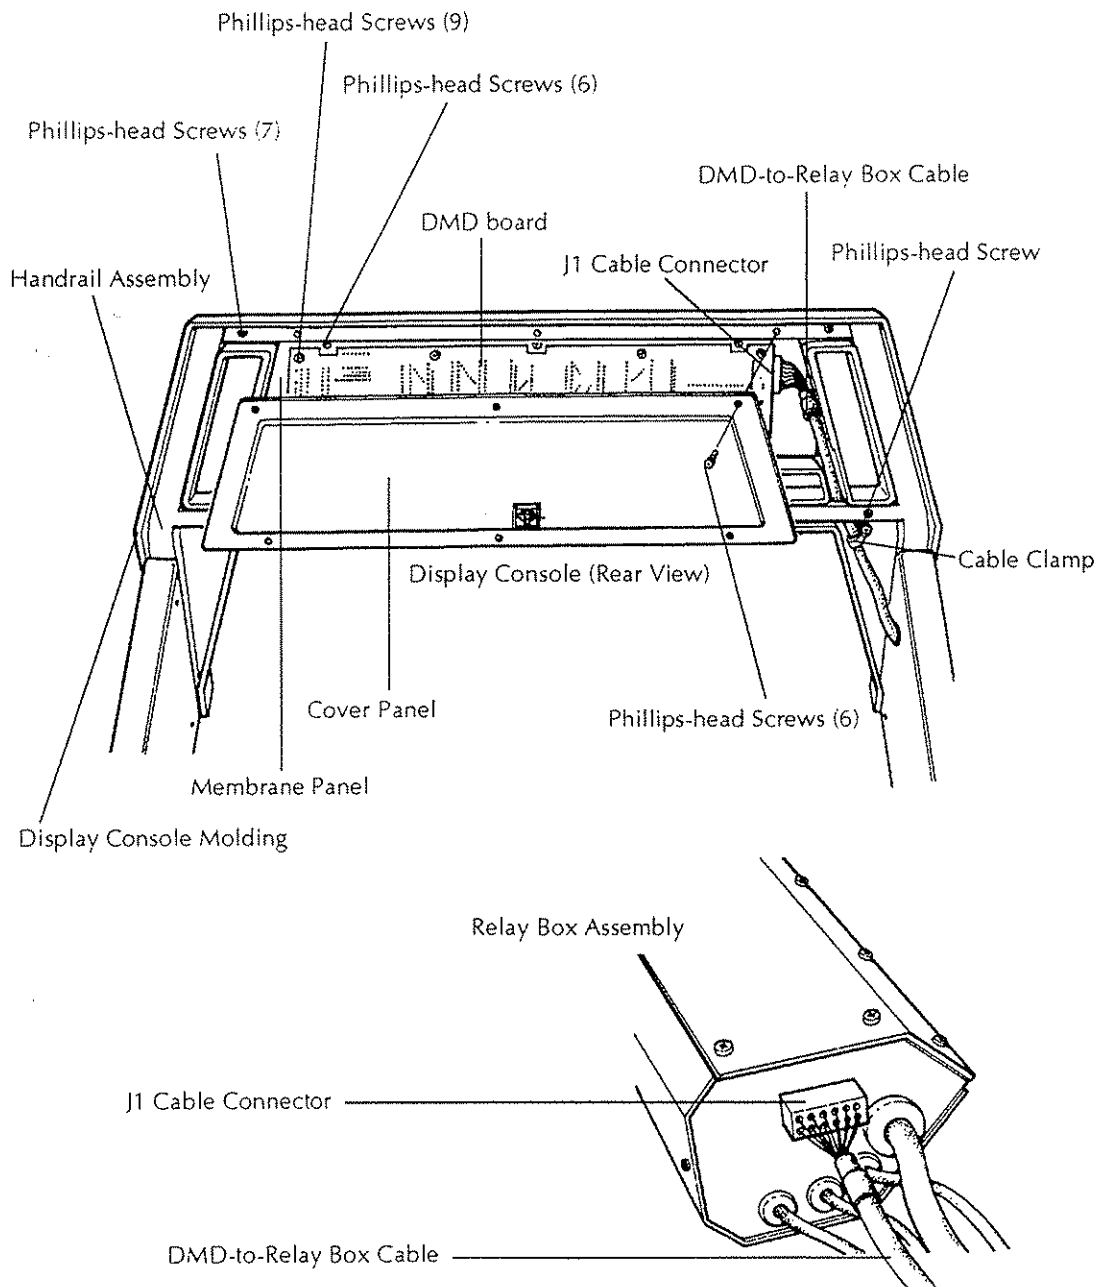

Figure 5-21: Replacing the DMD-to-Relay Box Cable
2. Remove the six Phillips-head screws securing the DMD board's cover panel. See Figure 5-21. Set the cover panel aside.
3. Remove the seven Phillips-head screws securing the display console molding to the handrail assembly. See Figure 5-21.
4. Remove the Phillips-head screw securing the DMD-to-relay box assembly cable clamp. See Figure 5-21.
5. Disconnect the keyed cable connector J1 from the DMD board. See Figure 5-21.
6. *Carefully* lift up the display console molding until the separation between it and the handrail assembly is enough to pull the J1 cable connector through to the area of the cable clamp. See Figure 5-21.
8. With the treadmill on its side, disconnect the DMD-to-relay box assembly cable from the relay box. See Figure 5-21.
3. Disconnect the keyed cable connector J1 from the DMD board. See Figure 5-21.
4. Support the DMD board with one hand. With the other hand remove the six Phillips-head screws securing the membrane panel to the display console. See Figures 5-21 and 5-22.
5. Remove the nine Phillips-head screws securing the DMD board to the membrane panel assembly. See Figures 5-21.